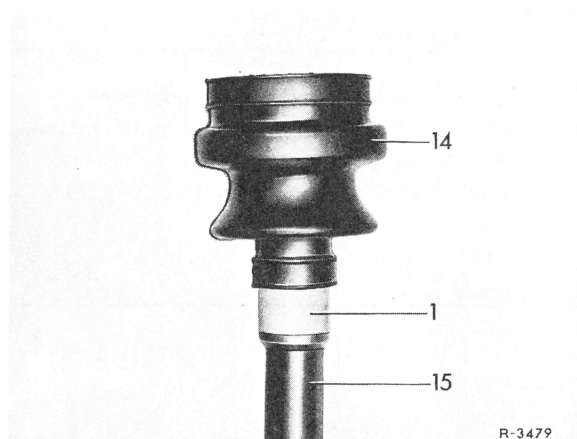

Fig. 6
7 Slide new rubber sleeve on rear axle shaft up to bead. Place assembly bushing (1) on splining of rear axle shaft to protect sleeve against damage (Fig. 6).